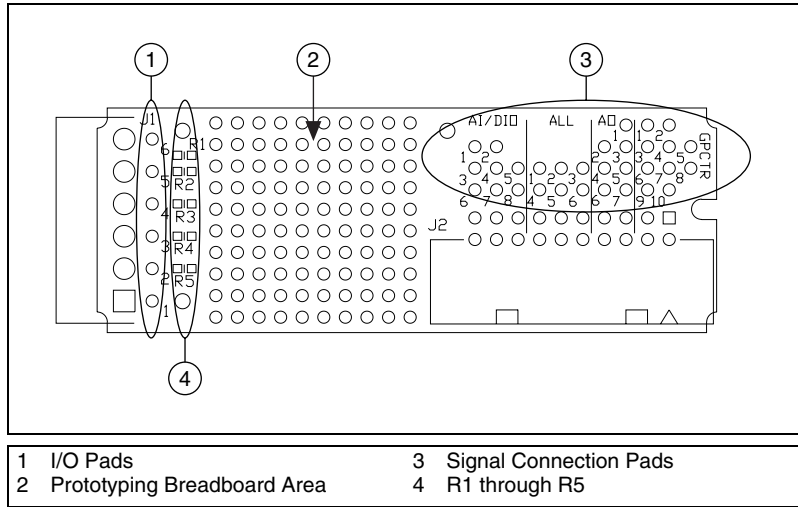

Figure 1. SCC-FT01 Parts Locator Diagram
You *must* remove resistors R1 through R5, shown in Figure 1, before you develop custom circuitry. The signal connection pads above connector J2, represented by item 1 in Figure 1, connect to different signals on the E Series DAQ device, depending on where you install the SCC-FT01 on the SC-2345.